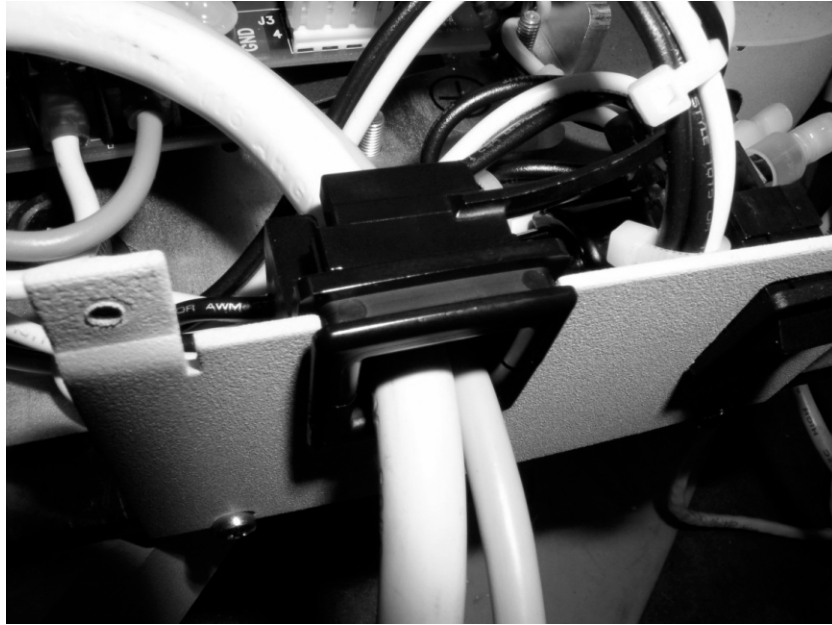

Figure 42: Outbound Cables Installed
7. Press the Strain Relief lock clamp until neither of the two cables could pulled out thru the Strain Relief (Figure 42).